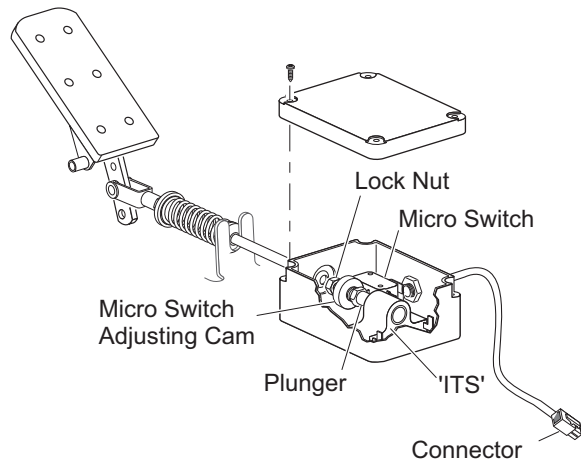

Figure 3 ITS and Plunger
3. Remove the metal cover and remove the four screws securing the plastic cover to the pedal box (Ref. Figure 3).